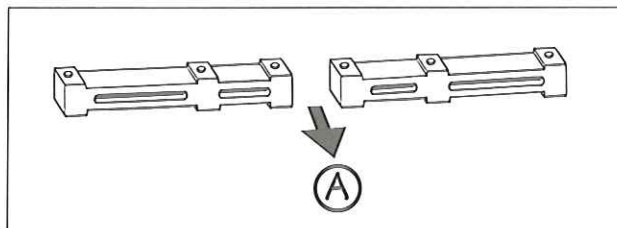

FIG. 16
2. Place the two spacer bars on the exhaust manifold side of the cylinder head with the "out" markings adjoining each other and facing the exhaust manifold (A) (see Figs. 16 and 17).